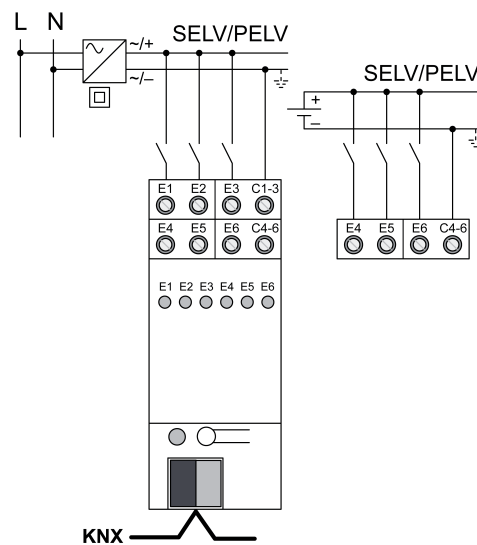

Figure 3: Connecting SELV/PELV circuits
- Connect SELV/PELV circuits as shown in the connection example (Figure 3). Comply with the polarity.